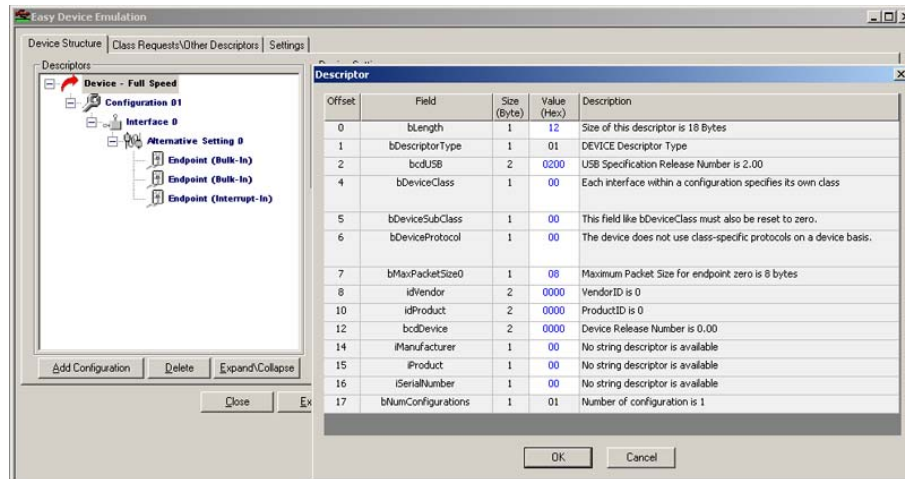

Figure 100 Defining Device Descriptors
3. Define Device Descriptors. Click the **Device Descriptor** button and enter the parameters for the Device in the Descriptor dialog, as shown in Figure 100.